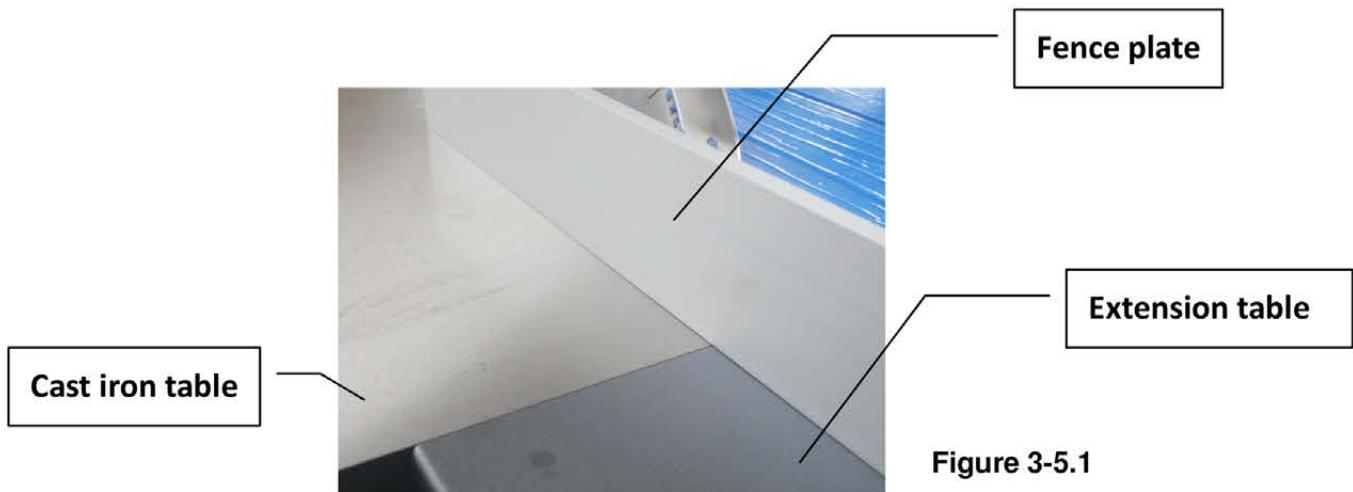

Figure 3-5.1
1. Fasten the extension table and keep it aligned with cast iron table. Check the flatness by placing fence plate (F, Figure 3-7.1) on the tables as Fig 3-5.1. The extension table must be even height to cast iron table. However, if the extension table is **lower**, the distance must be less than 0.2mm for smooth operation.